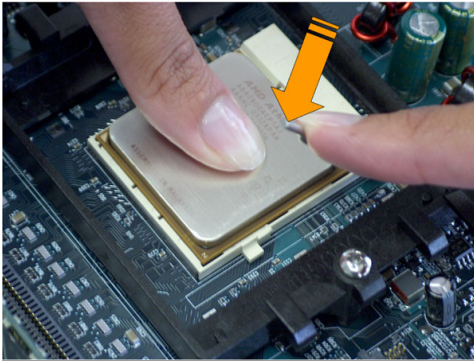

Figure 11. Pushing Gently Down on the Processor
12. Push down gently on the processor while lowering the locking lever and latching it into the fully locked position. (See Figure 11 on page 17.)